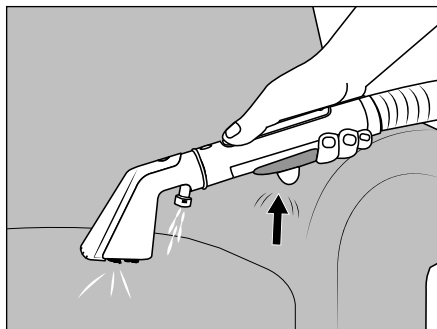

Fig. 6
(2) Before cleaning, check the upholstery / carpet manufacturer's label for special care instructions. The appliance is not suitable for sensitive textile fabrics (e.g. silk, leather, flokati).
(3) When using cleaning agents (vinegar-based cleaners and upholstery cleaning agents), always test how the appliance performs on an unobtrusive spot to ensure that no discolouration occurs.
(4) The appliance must be properly assembled before operation, and the fresh water tank ②  must be filled.
(5) Switch off the appliance before swapping the upholstery nozzle ㉒ and crevice nozzle ㉓.
(6) If the dirty water tank ⑦  is full, the float ⑥ closes the suction opening and the appliance runs at increased speed. Switch off the appliance immediately (see section 7.1. **Cleaning the dirty water tank**).
- ◆ Fold the carrying handles ⑮ upwards and carry the appliance to the place where you need it.
- ◆ Remove the spray/suction hose ⑰ from the hose holders ⑮/⑯.
- ◆ Slide the hose holder ⑮ into the appliance.
- ◆ Hold the spray/suction hose ⑰ by the handle.
- ◆ Press the On/Off button  ④ to switch on the appliance.
- ◆ Hold the upholstery nozzle ㉒ 2-3 cm above the area to be cleaned and press the spray button ㉔ to apply water / cleaning solution from the spray nozzle ㉕ (see Fig. 6).